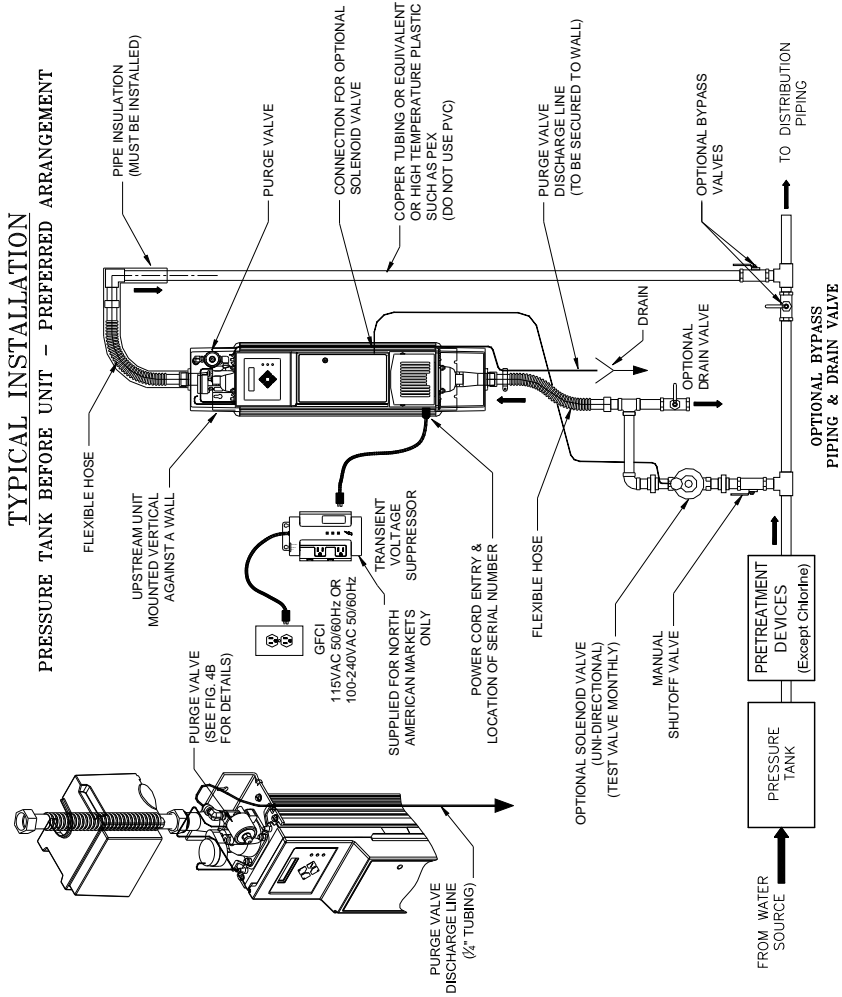

Figure 1B
It also requires male NPT fittings for the hose connections and also for the optional solenoid valve (1" or 1.5"). The Upstream unit requires a drain for purge valve discharge line. These fittings, pipe insulation, and any piping compatible with the plumbing should be on hand before you begin installation. See Figure 1B and make a list of all necessary components including solder, paste and thread sealant. Bypass piping and valves that isolate the unit are optional, (but recommended) as is a drain valve for draining the unit.
Step 2: If you have decided to install an optional bypass line and drain, you may begin to install these fittings at this point. See Figure 1B or 1C for more information on how to connect optional bypass piping and drain.
Step 2: Plug the female end of the power cord into the power entry module located on the left side of the front panel. The power cord must be removed before front panel can be opened. See Figure 1B or 1C. Plug the male end of the power cord into the Transient Voltage Surge Suppressor supplied. Plug the Transient Voltage Surge Suppressor into a GFCI. Flip the switch on the Transient Voltage Surge Suppressor to ON position.